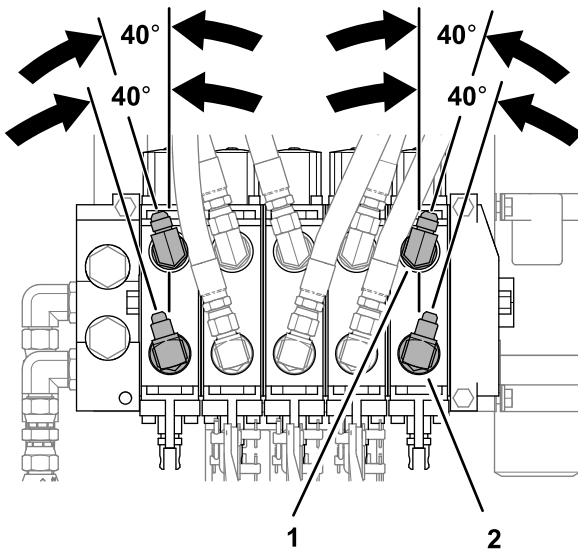

**Figure 5**
3. Assemble the short 90° fittings into the retract ports of the cutting-unit 6 and the cutting-unit 7 control valves (Figure 5).
4. Assemble the tall 90° fittings into the extend ports of the cutting-unit 6 and the cutting-unit 7 control valves (Figure 5).